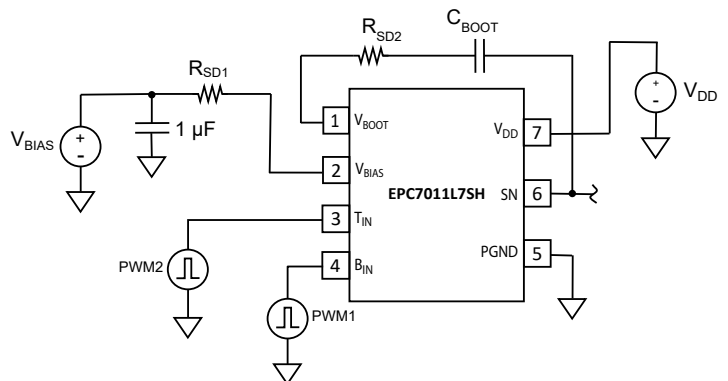

Figure 3. External Slow-Down Resistor Connections
The EPC7011L7SH is designed to be a high-speed power driver. As such it has extremely fast switching node (SN) rise and fall times by design. Fast rise and fall times can and will result in unwanted voltage spikes at the V_{DD} and PGND pins due to any parasitic layout inductance ($V_{SPIKE} = L_{Par} \cdot di / dt$). If as a result of the optimized PCB layout that these spikes cannot be reduced to an acceptable level, it is recommended that two resistors be added to the circuit to decrease the slew rates of the low-and high side gate drive signals, which in turn decreases the slew rates of the switching node rise and fall times. These resistors, R_{SD1} and R_{SD2} are shown in Figure 3.